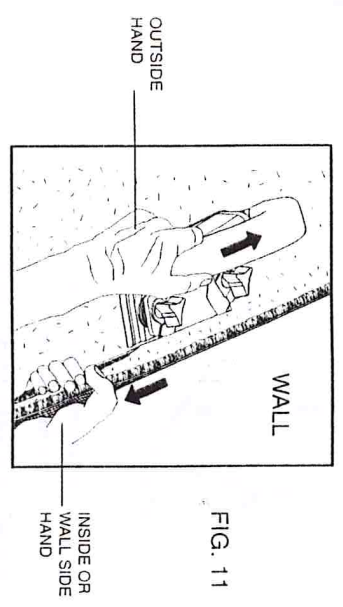

FIG. 11
- Push the trimmer along the wall with your outside hand. Using your inside, or wall-side hand, pull the carpet being trimmed. (See figure 11 on next page.) The pulling tension on the cut-off piece makes trimming easier.